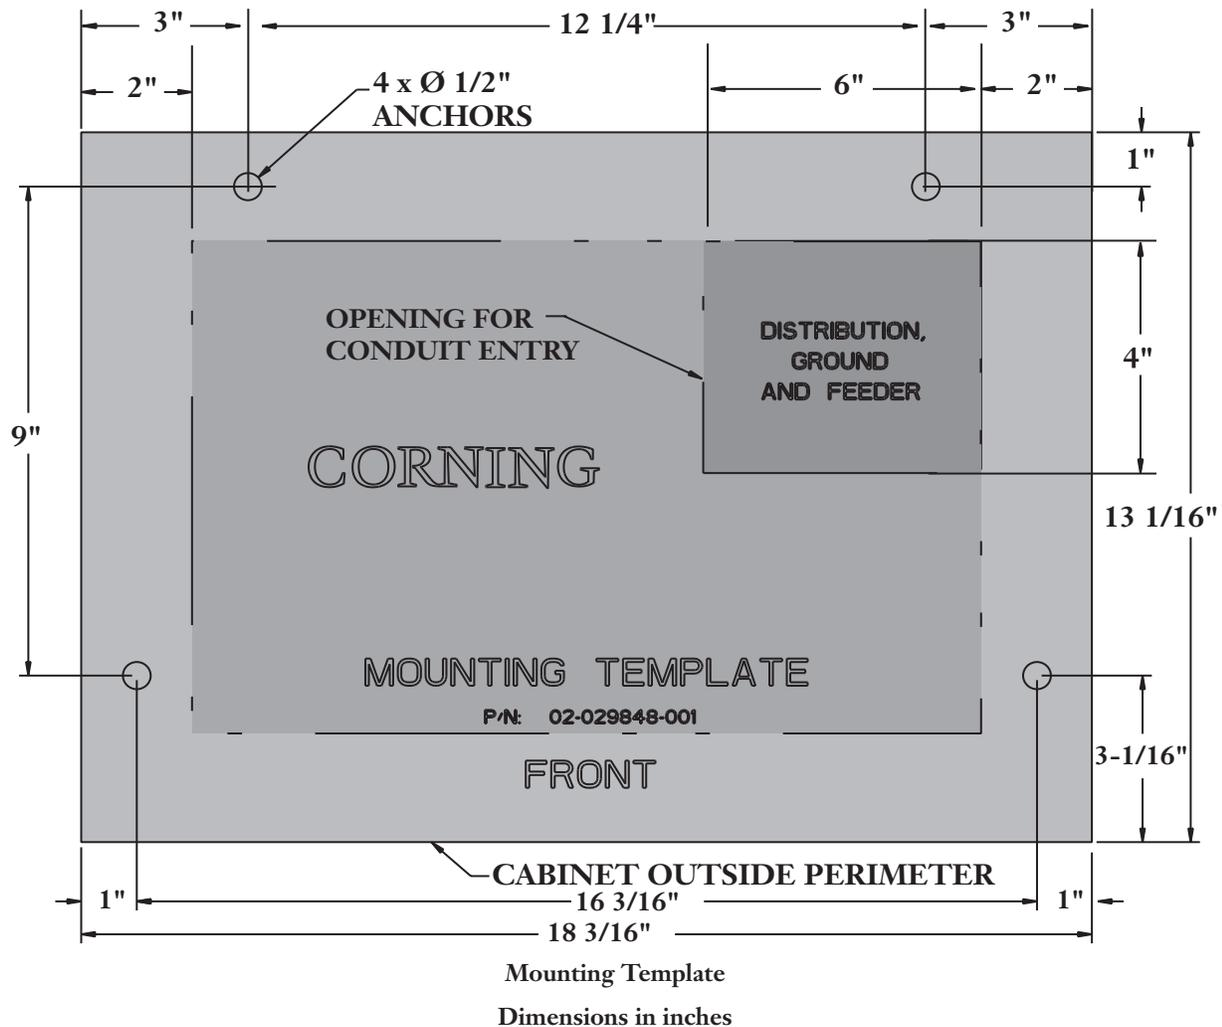

Figure 3 — Template for Pad-mounting Hardware Location
Step 1 If not using a precast pad with mounting hardware installed, use the template provided in the packing envelope on the outside of the shipping container to mark the location for the mounting bolts (Figure 3). Drill holes for 0.5-inch bolt anchors in the poured pad and insert the mounting bolts (0.5-inch diameter).